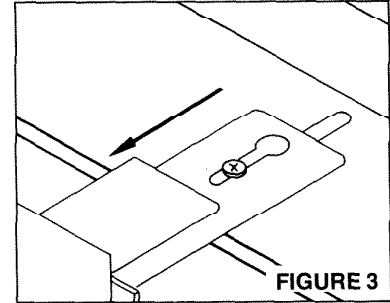

FIGURE 3
6. Remove screws that secure the hinges to the rough-in frame. (See Figure 3.)